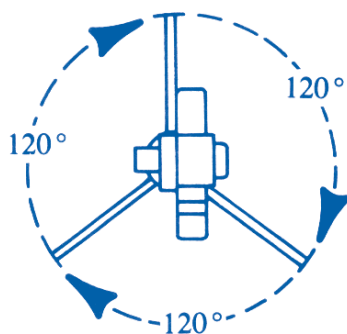

Figure 7
- Be sure the legs are equidistant from one other (Figure 7).